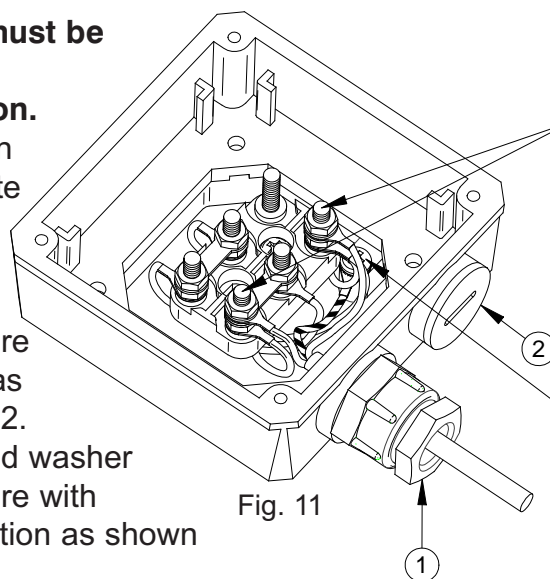

Fig. 11
1. The cable gland assembly Fig. 11 (item 1) must be sourced, supplied and fitted by the installer. The gland must be suitable for the cable selected and must provide the necessary protection against ingress of solid objects and moisture as well as providing cable retention.
4. Route cable as shown in Fig. 11 (or as appropriate if box re-positioned).
5. Remove terminal post clamping components and assemble and secure with conductor eyelets as shown in Figs. 11 and 12.
7. Confirm cable routing is as shown in Fig. 11 (or as appropriate if box re-positioned) and secure terminal box lid.